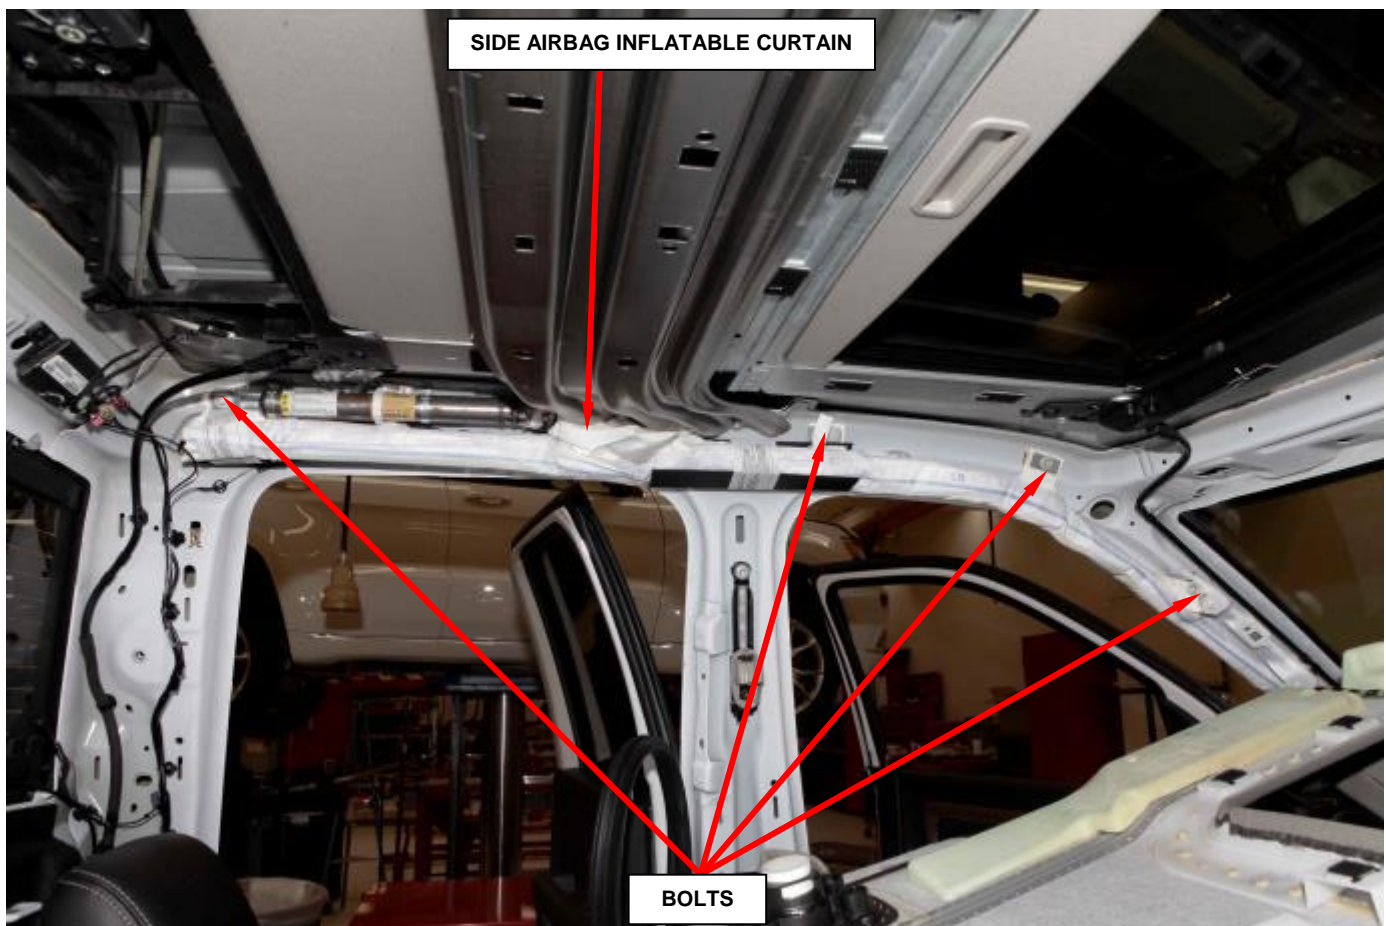

Figure 25 – Side Airbag Inflatable Curtain Bolt Locations
1. Remove the four bolts that secure the side airbag inflatable curtain to the inner roof rail (Figure 25).
13. Working from rear to front, install and tighten the four bolts that secure the side airbag inflatable curtain to the spring nuts in the inner roof rail. Tighten to 70 in. lbs. (8 N·m) (Figure 25).